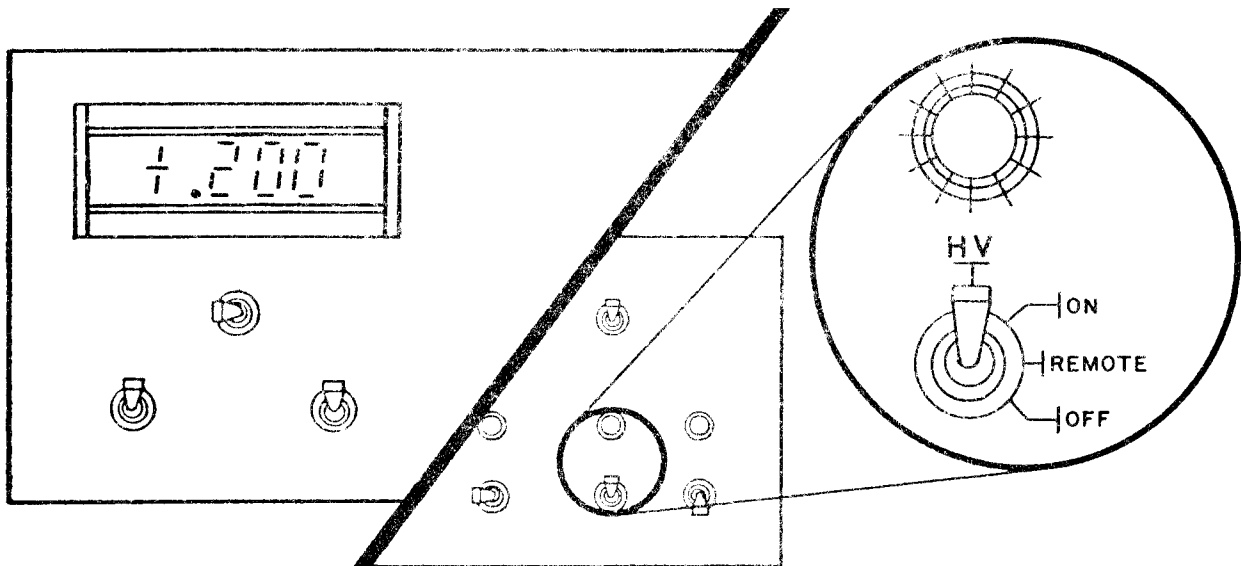

Figure 65. HV Switch to ON
- g. Wait thirty seconds after the POWER switch has been set to ON, then flip the HV switch to ON (see Figure 65). The DPM displays the magnitude of voltage between HV OUT and ground.